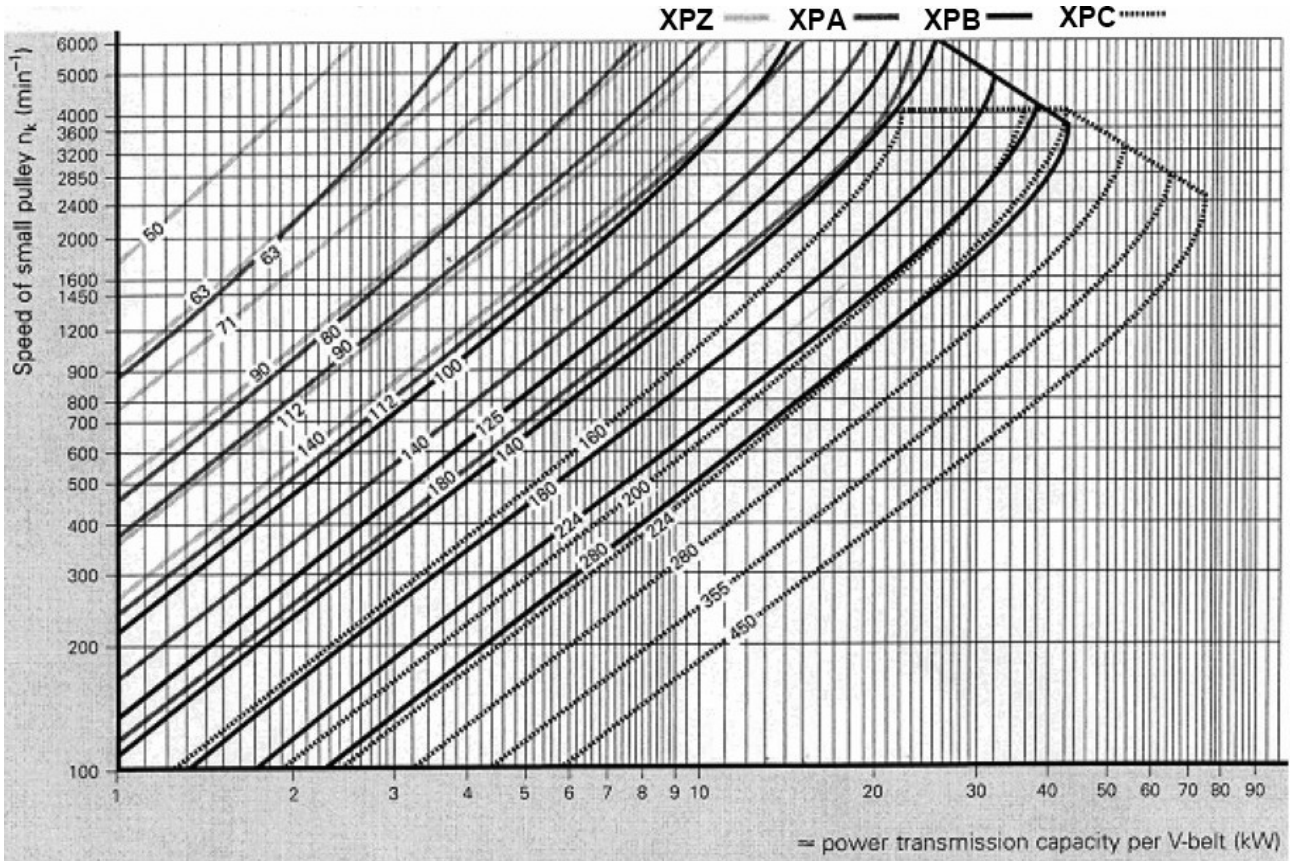
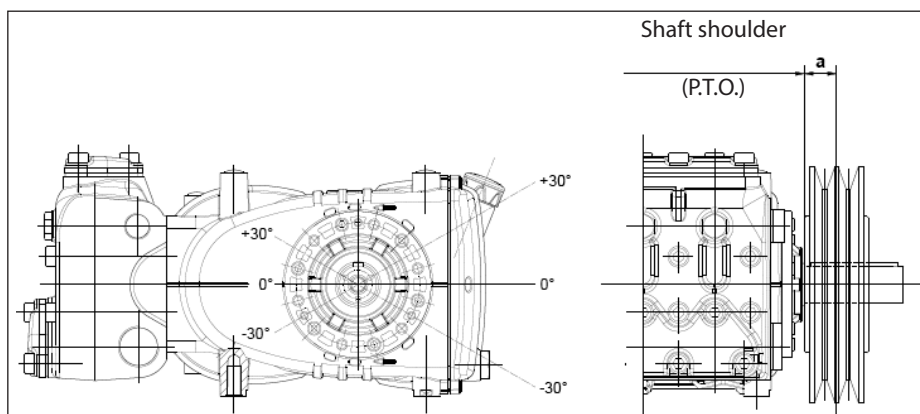

Fig. 7
Fig. 10
For this pump model, we recommend use of 4 XPB belts (16.5x13 serrated). Use an XPC profile only for long durations. Both the characteristics and transmissible power of each belt can be verified in the diagram in Fig. 7, in relation to the number of rpm normally declared by the manufacturer. Minimum duct pulley diameter (on pump shaft): ≥ 250 mm. The radial load on the shaft must not exceed 7500 N (value necessary for Layout definition). The transmission is considered adequate if the load is applied to a maximum distance $a=40$ mm from the shaft shoulder (P.T.O) as shown in Fig. 10.
- b) Use high performance belts – for example **XPB** instead of **SPB** – as a lower quantity of belts for the same transmitted power may be necessary and a consequent shorter resulting distance compared to the shaft shoulder (P.T.O.) “a” of Fig. 10.